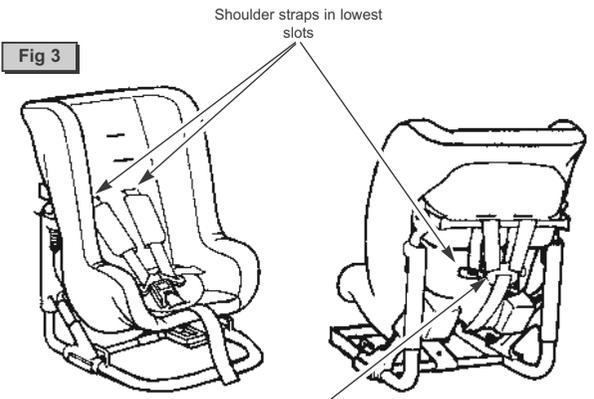

Fig 3
- Place the child safety seat in the recline position in any rear passenger seat position which has an adult lap belt fitted. Pass the lap belt between the seat moulding and frame (Fig 3), Ensuring the lap belt is located in both red
- lap belt guides (Fig 3) and fasten the safety belt. Now push child seat downwards (using your bodyweight if necessary) whilst tightening the adult lap belt as far as possible. Ensure belt is not twisted.
- With the child seat in the rearward facing position the harness should be fitted to the LOWER slots in the seat shell (see Fig 3).